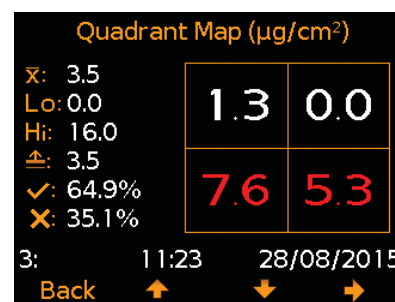

Fig. 16: Readings x4
- 2) Readings x4 (Fig. 16)
For views 2-5 (Fig. 16 to 19), the following statistical data is also displayed: